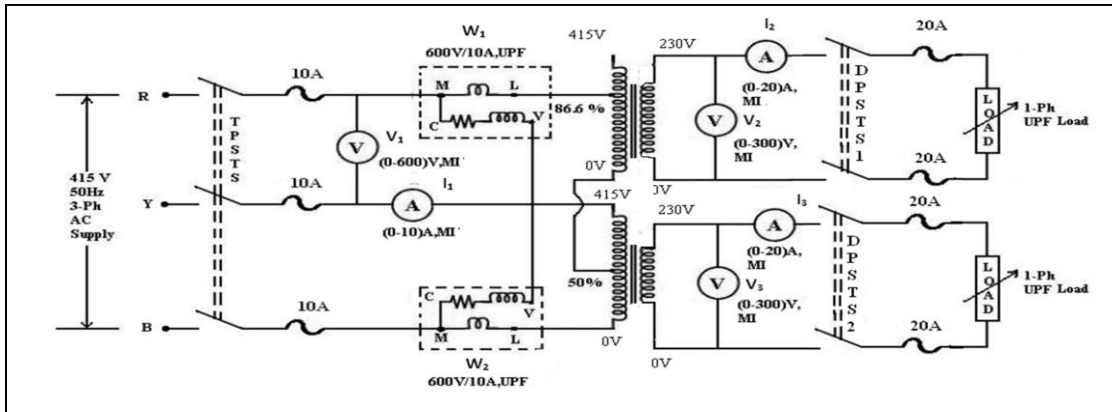

Fig 8.1: Circuit diagram for scott connection
1. Connect the circuit diagram as shown in fig 8.1.